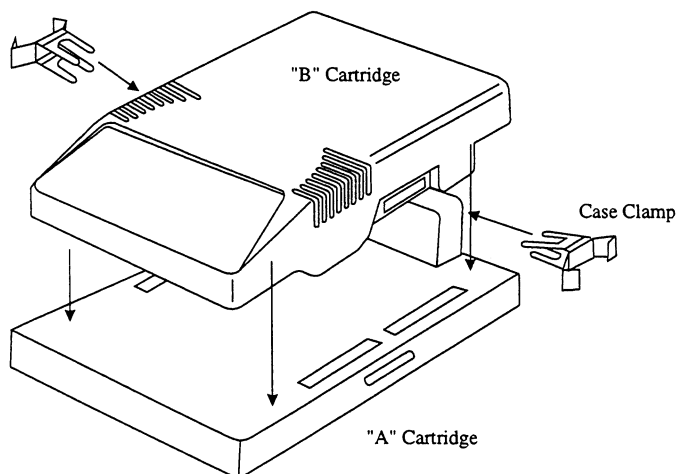

Figure 12 : Case Clamp Installation
2. To mate the existing “B” cartridge with the “A” cartridge, align the “B” cartridge over the “A” cartridge and push down firmly. Install the case clamps as shown in Figure 12.
2. To remove the existing “A” cartridge from the “B” cartridge, pull the old case clamps apart and discard (see Figure 12). Carefully remove the old “B” cartridge and install the new “B” cartridge. Install the new case clamps.